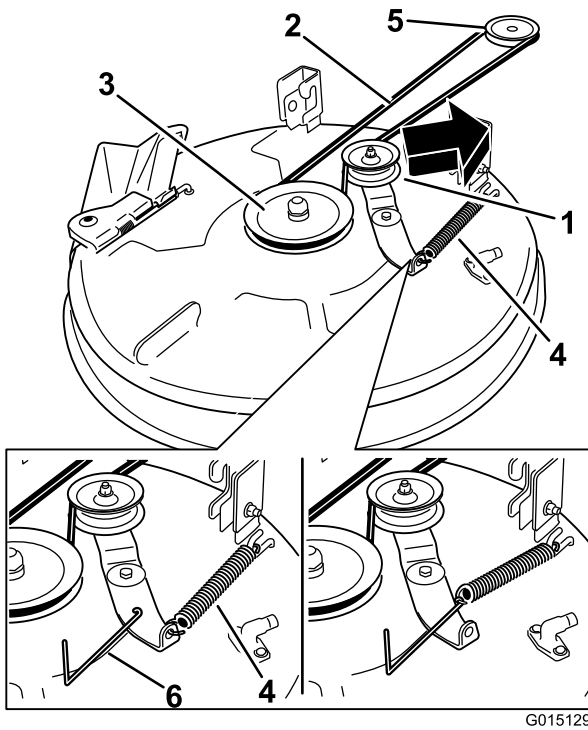
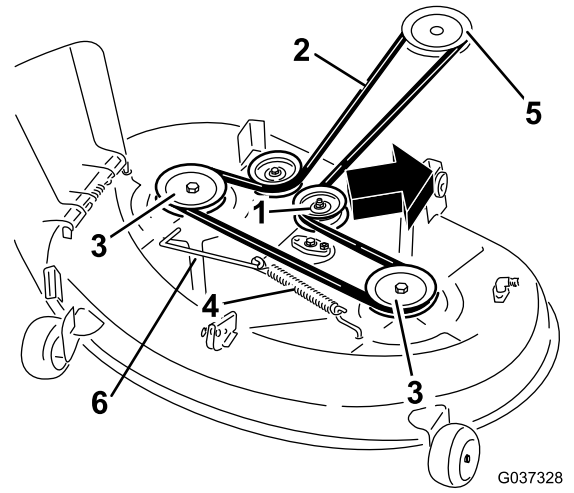

Figure 63
Figure 64
5. Using a spring-removal tool (Toro part no. 92-5771), remove the idler spring from the deck hook to remove tension on the idler pulley, and roll the belt off of the pulleys (Figure 63 and Figure 64).
6. Route the new belt around the engine pulley and mower pulleys (Figure 63 and Figure 64).
7. Using a spring-removal tool (Toro Part Number 92-5771), install the idler spring over the deck hook and place tension on the idler pulley and the mower belt (Figure 63 and Figure 64).